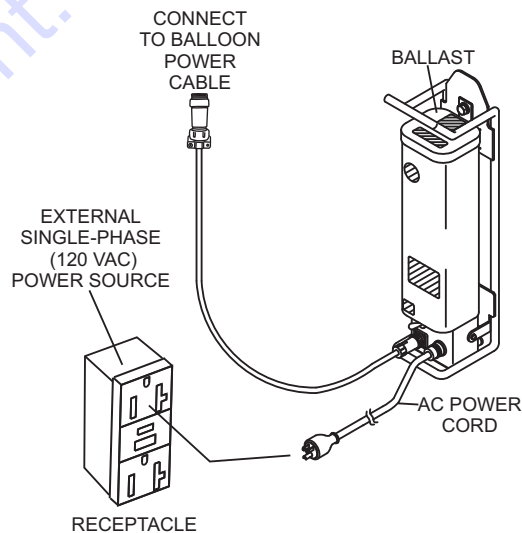

Figure 11. Applying 120 VAC Power
2. If using a power source (Figure 11) other than a portable generator, plug the AC power cord from the ballast into a 120 VAC, 60 Hz receptacle that is protected by a at least a 15 amp circuit breaker.
Once the generator has started, plug the AC power cord from the ballast (Figure 11) into a GFCI receptacle on the generator.